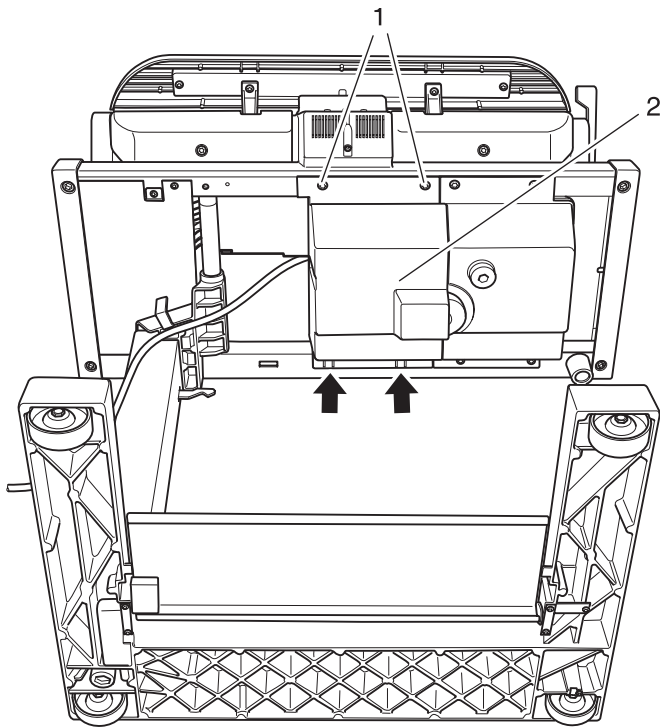

Fig. 22
- Lay the steam ironer face-up on the floor (fig. 22).
- Pull out silicone tubes 3 and 4 from water pump (fig. 22).